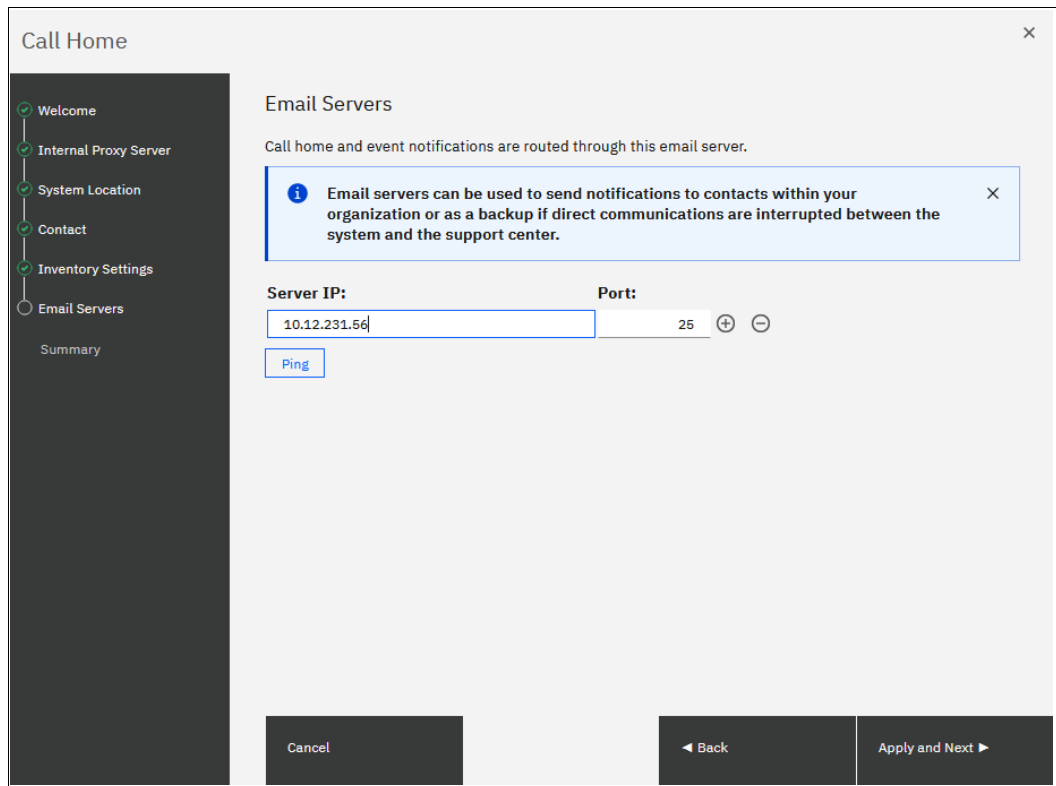

Figure 13-46 Configuring email servers and inventory reporting
4. Configure the SMTP server according to the instructions that are shown in Figure 13-46. When the correct SMTP server is provided, you can test the connectivity by clicking **Ping** to verify that it can be contacted. Then, click **Apply and Next**.